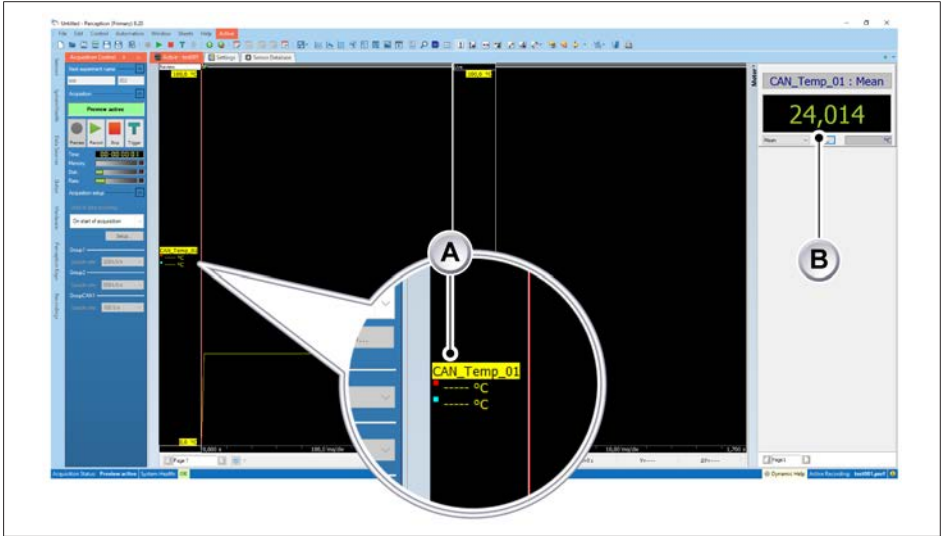

Fig. 12.26 CAN data in Perception
4. In Perception, CAN data is visualized as shown in Fig. 12.26.